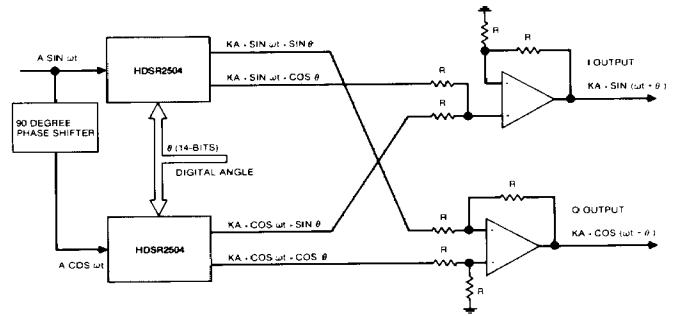

FIGURE 8 Precision Phase Shifter
Two HDSR2504s can be configured with external operational amplifiers to construct a precision digital phase shifter with in-phase (I) and quadrature (Q) outputs. Figure 8 shows the system to implement this function. If the digital angle  $\theta$  is made to vary with time, modulation of the carrier signal can be accomplished. The I and Q outputs are phase-shifted replicas of the input carrier signal where the phase angle is the digital input angle,  $\theta$ .
One interesting use for this phase shifter is in the frequency response testing of feedback control systems. The phase shift of the device under test can be measured on the oscilloscope by comparing the output from the system with the phase-shifted output from the circuit of figure 8. For each reading, the digital input ( $\theta$ )